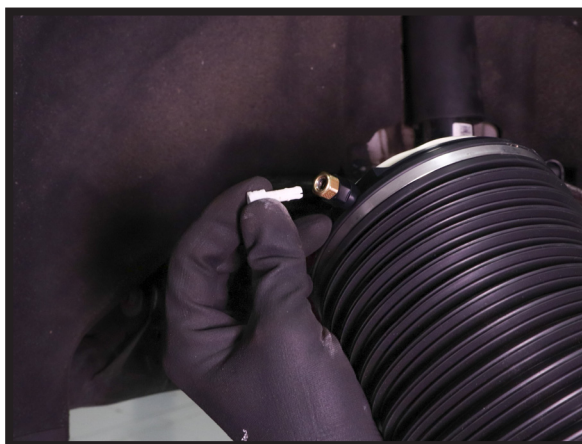

FIGURE 9
1. PULL OUT THE SHIPPING PIN. (FIGURE 9)